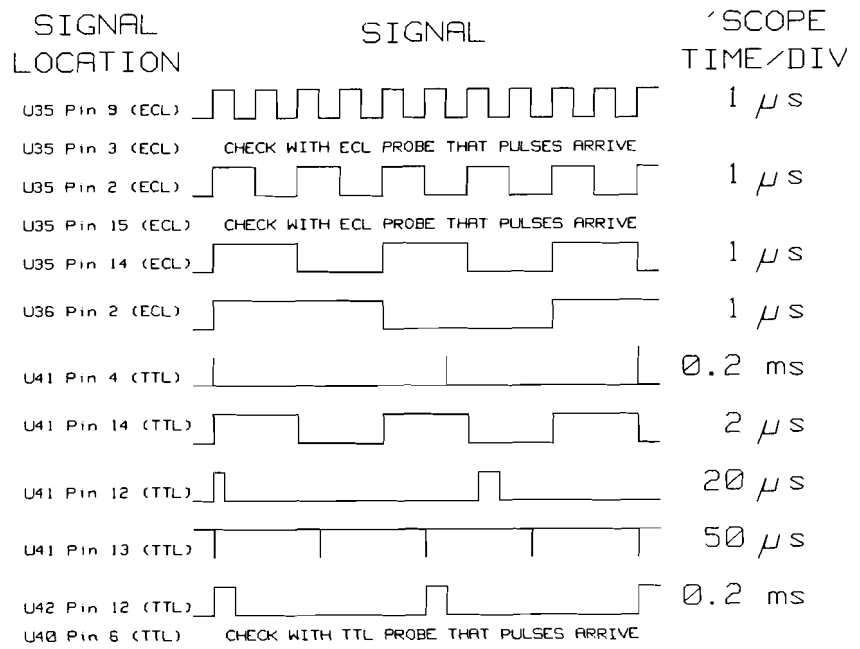

Figure 10.6-5. Burst-counter waveform and timing data
7. Using an oscilloscope and ECL- and TTL-logic probes you can test the burst- counter waveform and timing data against Figure 10.6-5.